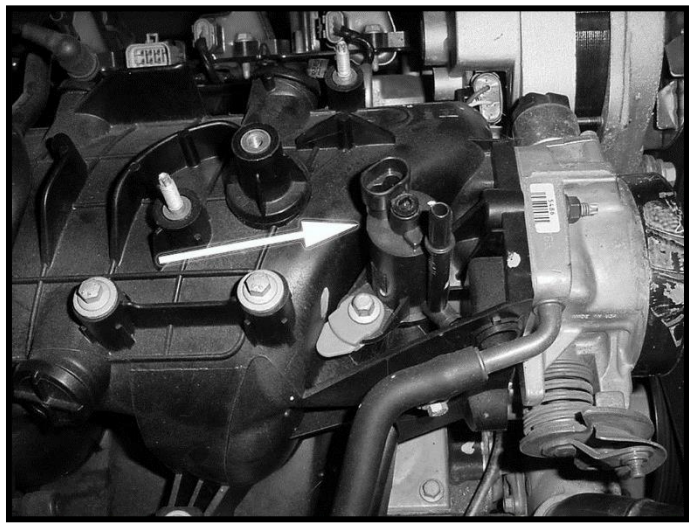

FIGURE 6.5 Canister Purge Solenoid
- E. **CANISTER PURGE (not equipped on all models)** - The Evaporative Emissions (**EVAP**) control system is the charcoal canister storage method. This method transfers fuel vapor from the fuel tank to an activated carbon charcoal storage canister, to hold the vapors when the vehicle is not operating. When the engine is operating, the fuel vapor is purged from the carbon element by intake air flow and consumed in the normal combustion process. **See Figure 6.5**